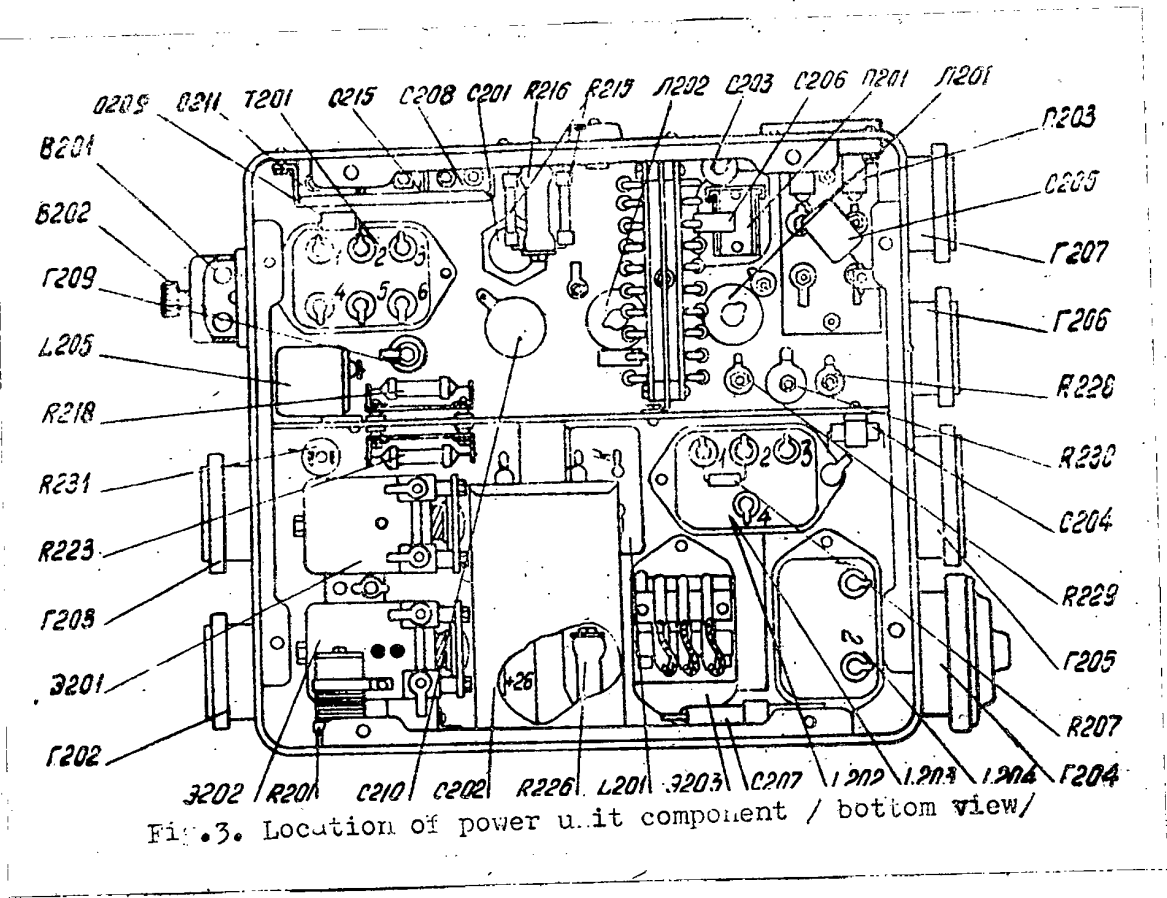

Fig. 3. Location of power unit component / bottom view/
3. Resistors R 227, R 201, capacitor C 204 and the resistance of choke L 201, L 202 and L 203 coils. The location of the power unit components is shown in Fig. 3.